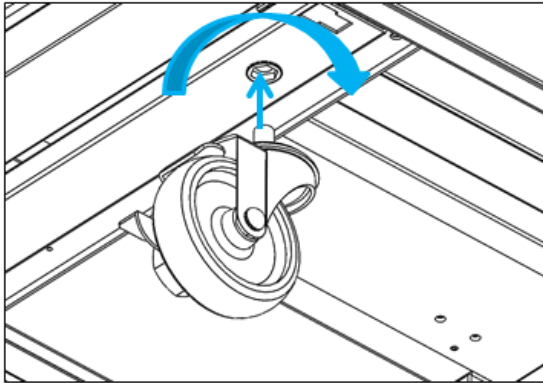

Figure 3
(1). Reach-ins (Figure3): Install casters in the bottom rails assembly on the bottom of the unit. It is important in order to achieve maximum strength and stability of the unit that you ensure that each caster is securely tightened with a 3/4" (19mm) open-ended wrench. Casters with brakes Must be installed in front. and the casters must be in contact firmly with the bottom rails of the unit.